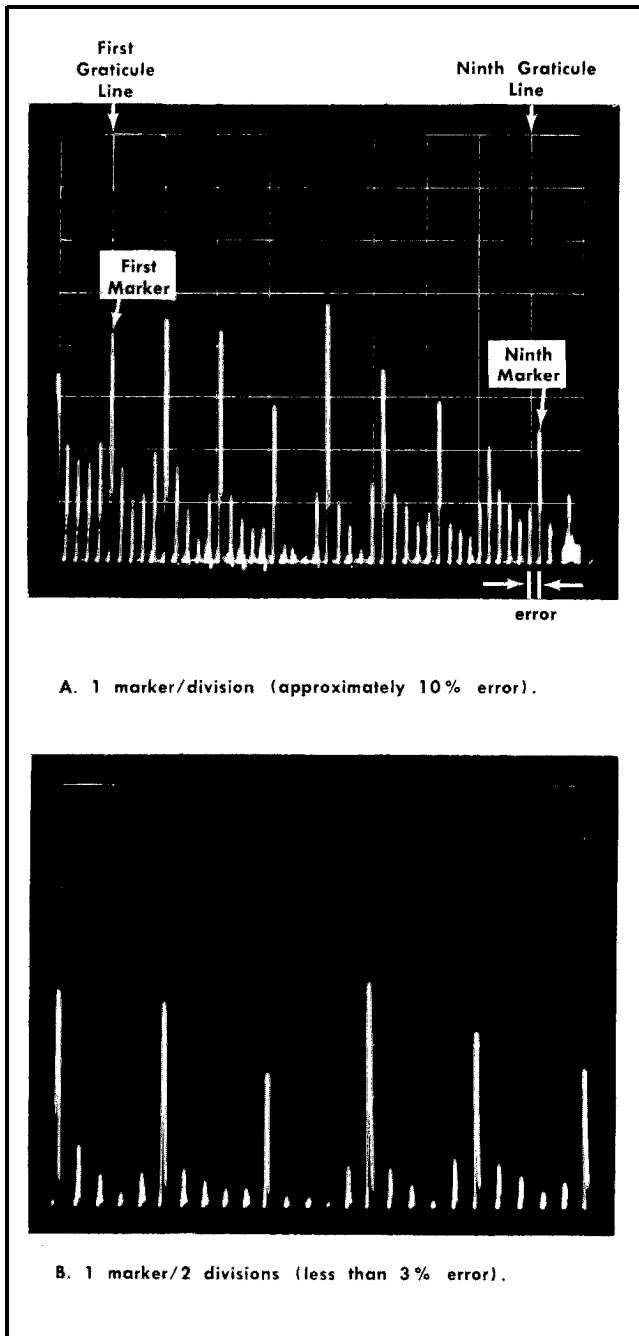

Fig. 6-20, Measuring dispersion accuracy.
Dispersion accuracy is a measure of the frequency dispersion error within 8 divisions of a 10 division display. It is measured by positioning the 1st frequency marker on the 1st graticule line, then noting the dispersion error as the distance the 9th marker is displaced from the 9th graticule line. See Fig. 6-20.
c. Adjust the Type 491 GAIN control for a display amplitude of approximately 6 divisions. See Fig. 6-20. Set the SOURCE switch to LINE and adjust the LEVEL control for a triggered display.